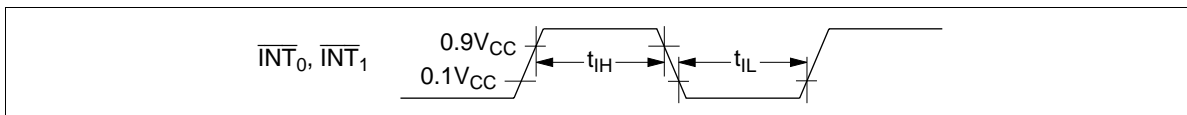

Figure 49 Interrupt Timing
4. See figure 49. The unit  $t_{cyc}$  is applied when the MCU is in standby mode or active mode.
6. See figure 49. The unit  $t_{subcyc}$  is applied when the MCU is in watch mode or subactive mode.  $t_{subcyc} = 244.14 \mu\text{s}$  (when a 32.768-kHz crystal oscillator is used)